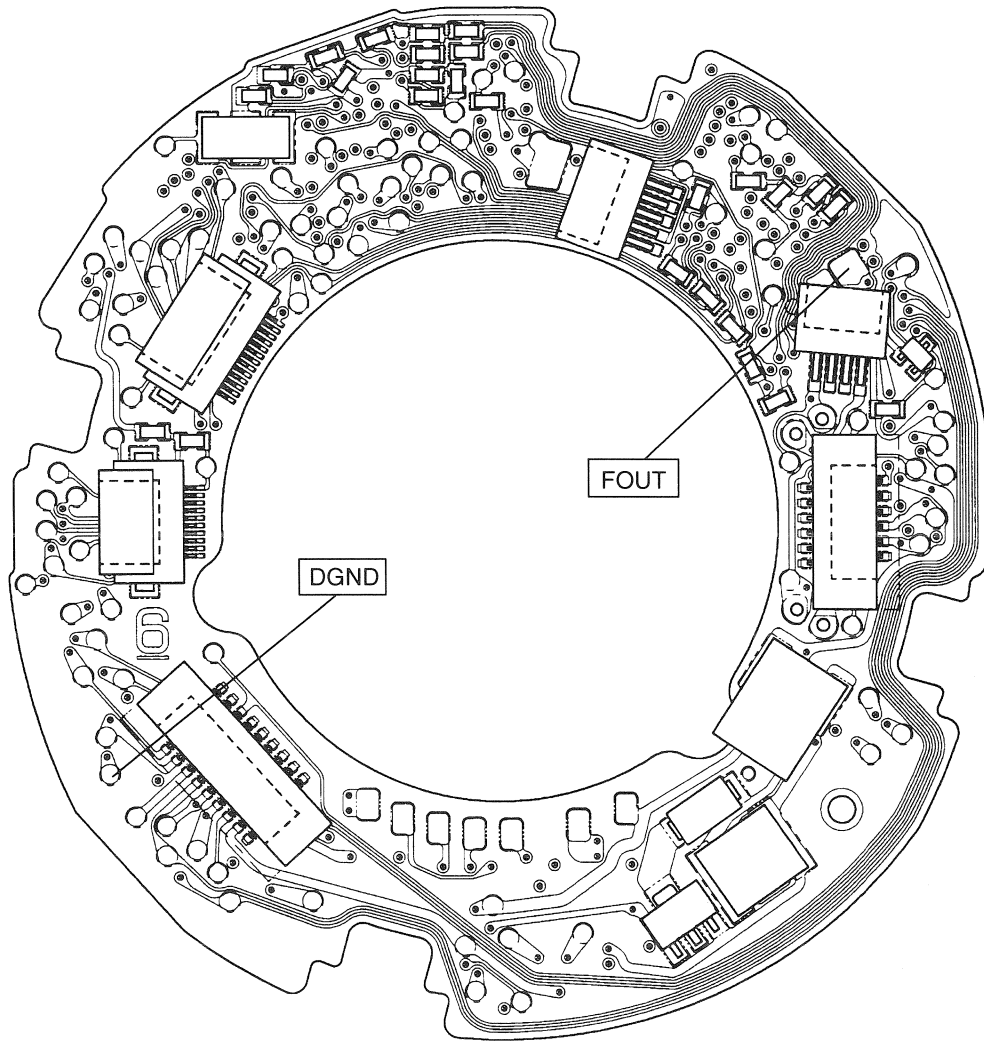

Fig. 3-24 USM Frequency Adjustment Locations
2. Solder a lead to each of the FOUT and DGND lands shown in Fig. 3-24.